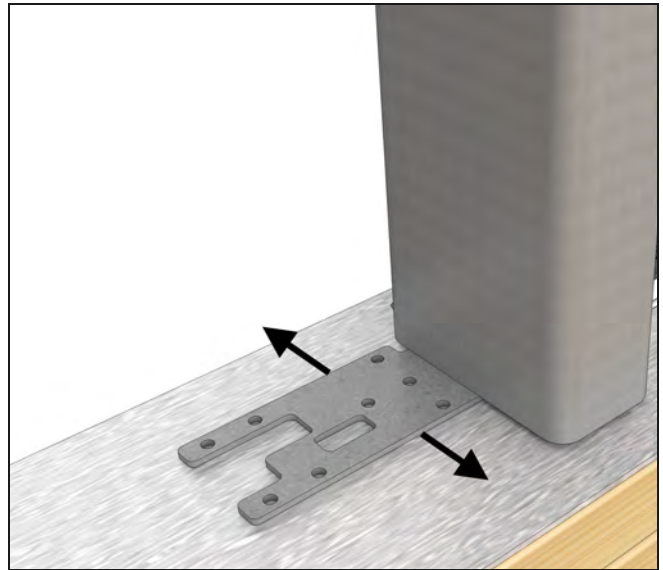
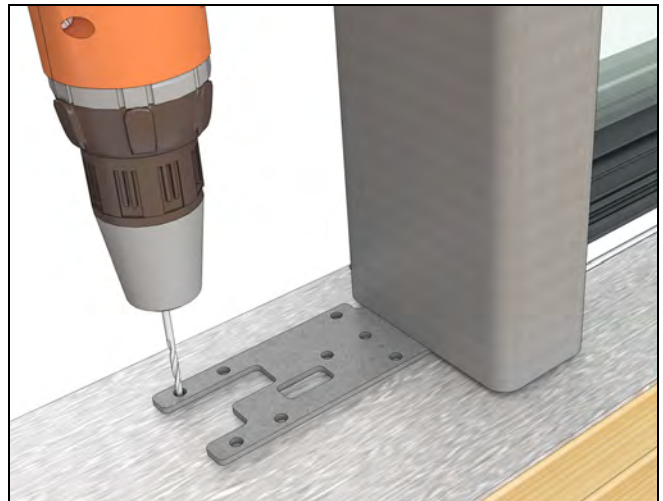
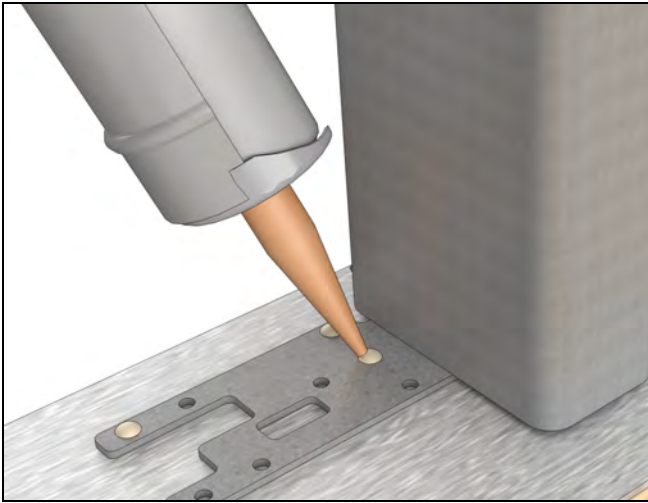

Figure 82
Figure 83
Figure 84
9. Adjust the bracket so it is square in the opening and positioned about 1/4" from the exterior step in the frame. Then fasten it to the sill. Use seven #10-12 3" T20 Torx pan head 2/3 thread screws or similar depending on the sill material. See Figure 82, Figure 83, Figure 84, Figure 85, and Figure 86.